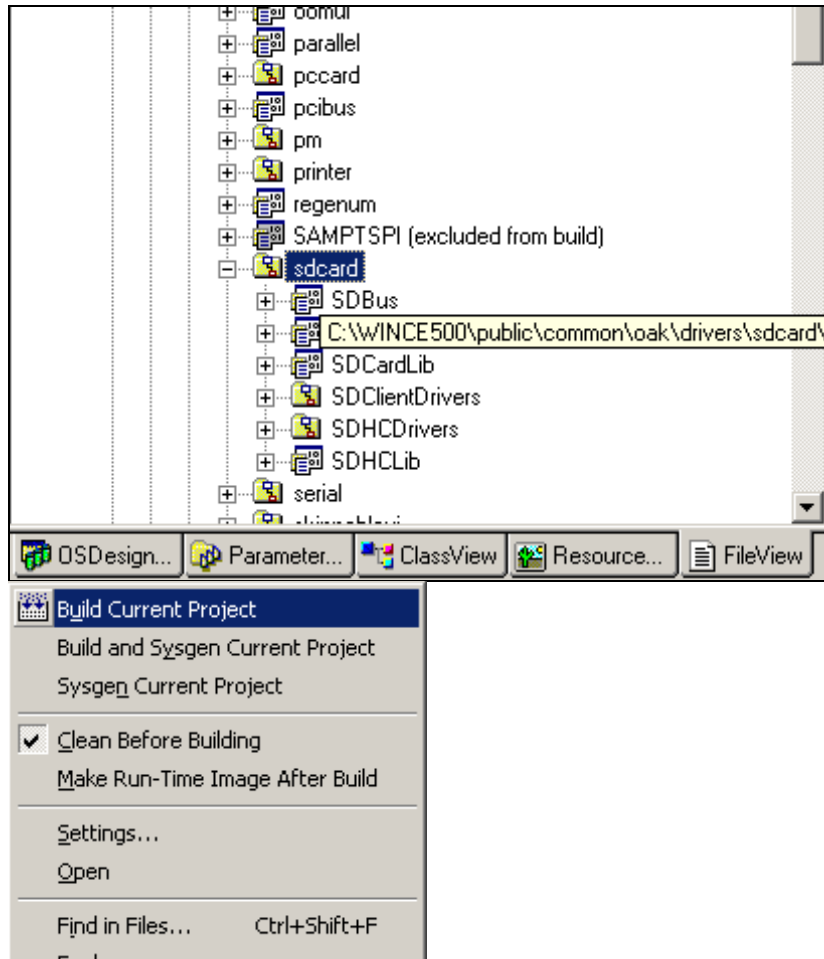

Figure 1-4 Clean Before Building and Build Current Project
4. Select **Clean Before Building**, and then select **Build Current Project** (see both in Figure 1-4).